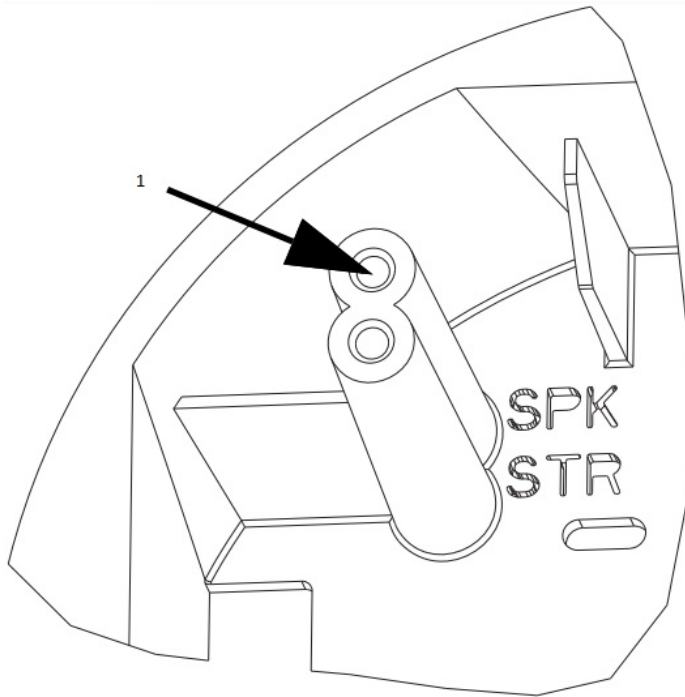

Figure 14 Surface Mount Back Box “Up” Arrow
- **Note for positioning:** Wall mount back boxes: Mount with the up arrow pointing up. (See Figure 14.)